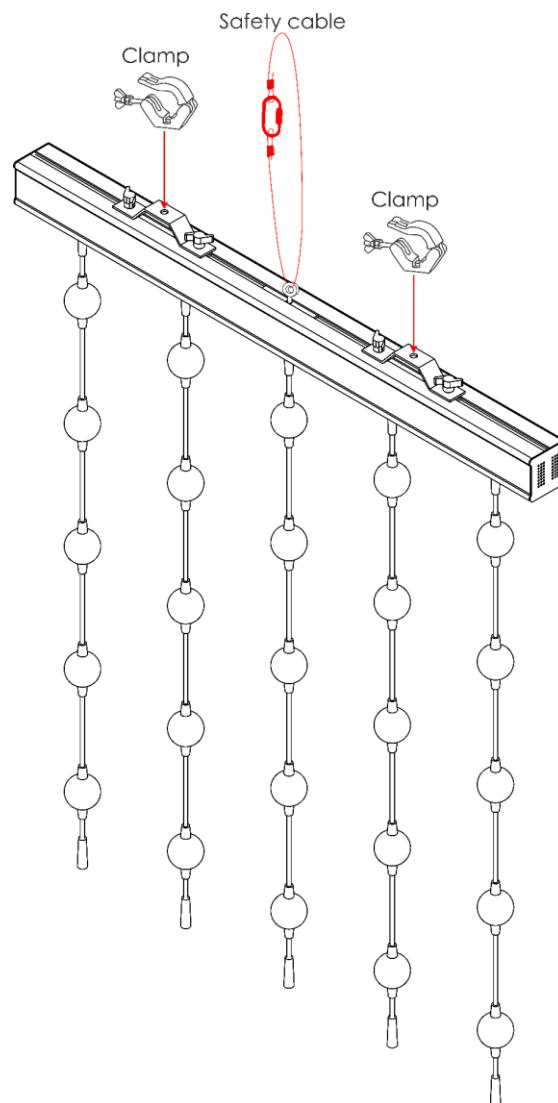

Fig. 04
03) Secure the device with a secondary suspension, for example a safety cable. Make sure that the secondary suspension can hold 10 times the weight of the device. If possible, the secondary suspension should be attached to a supporting structure independent of the primary suspension. Put the safety cable through the **safety eye (10)**, as shown in Fig. 04